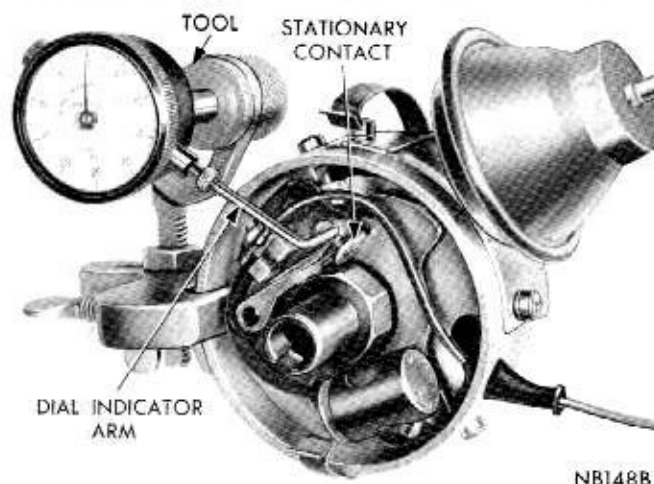

Fig. 13—Adjusting Contact Clearance
(6) After aligning contacts, adjust contact clearance to "Specifications," using dial indicator (Fig. 13). Recheck contact arm spring tension.
(7) Test dwell angle to show proper degree of closure. See Paragraph, "Distributor Contact Dwell." The lock screw should be loosened just enough so stationary contact bracket can be moved with a slight drag; otherwise, it will be difficult to set contacts accurately. After setting contacts to the correct gap, tighten stationary bracket lock screw.